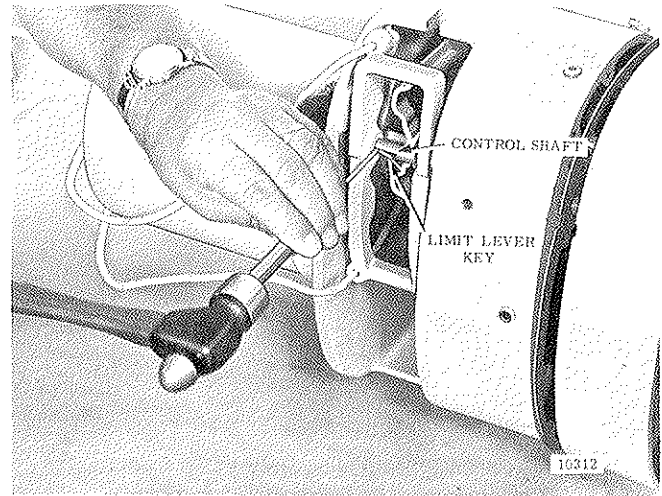
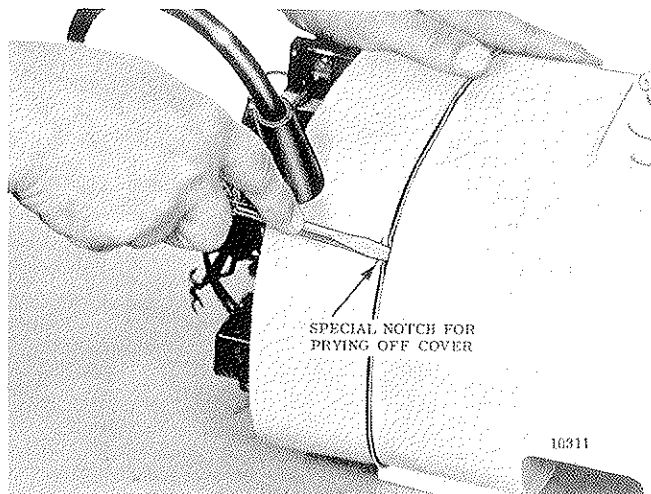
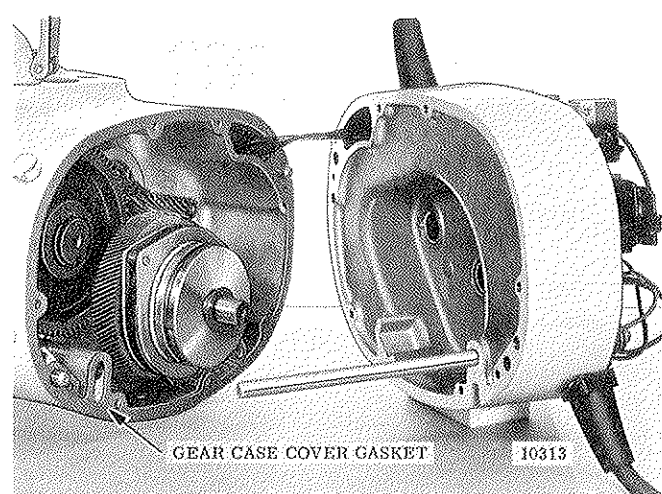

Figure 7-7. Removing Limit Lever Key From Control Shaft
Figure 7-6. Prying Gear Case Cover From Hoist Frame
Figure 7-8. Gear Case Cover With Electrical Controls Removed From Frame
(6) Remove eight hex socket head screws and lock-washers securing gear case cover to hoist frame. Pry gear case cover partially off hoist frame using screw driver at special notches provided at opposite corners of cover (fig. 7-6) to provide access for removing limit lever key from control shaft. Tilt Woodruff key in shaft slot using drift punch (fig. 7-7) and pull out using pliers. Gear case cover with electrical controls attached can now be lifted from frame (figures 7-8). Limit lever will drop free of frame as shaft is removed with cover. Discard gear case cover gasket.